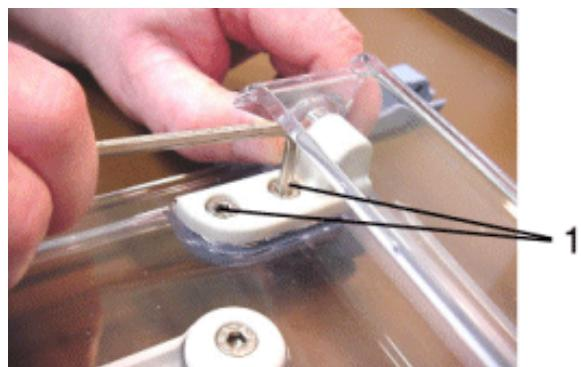

Fig. 19 Attachment of hinge to large door
4. Remove screws (1) of faulty hinge, see Fig. 19.
6. Secure new hinge to large door using screws (1) (**Note: The tightening torque of the screws is 2 -0.5 Nm!**), see Fig. 19.